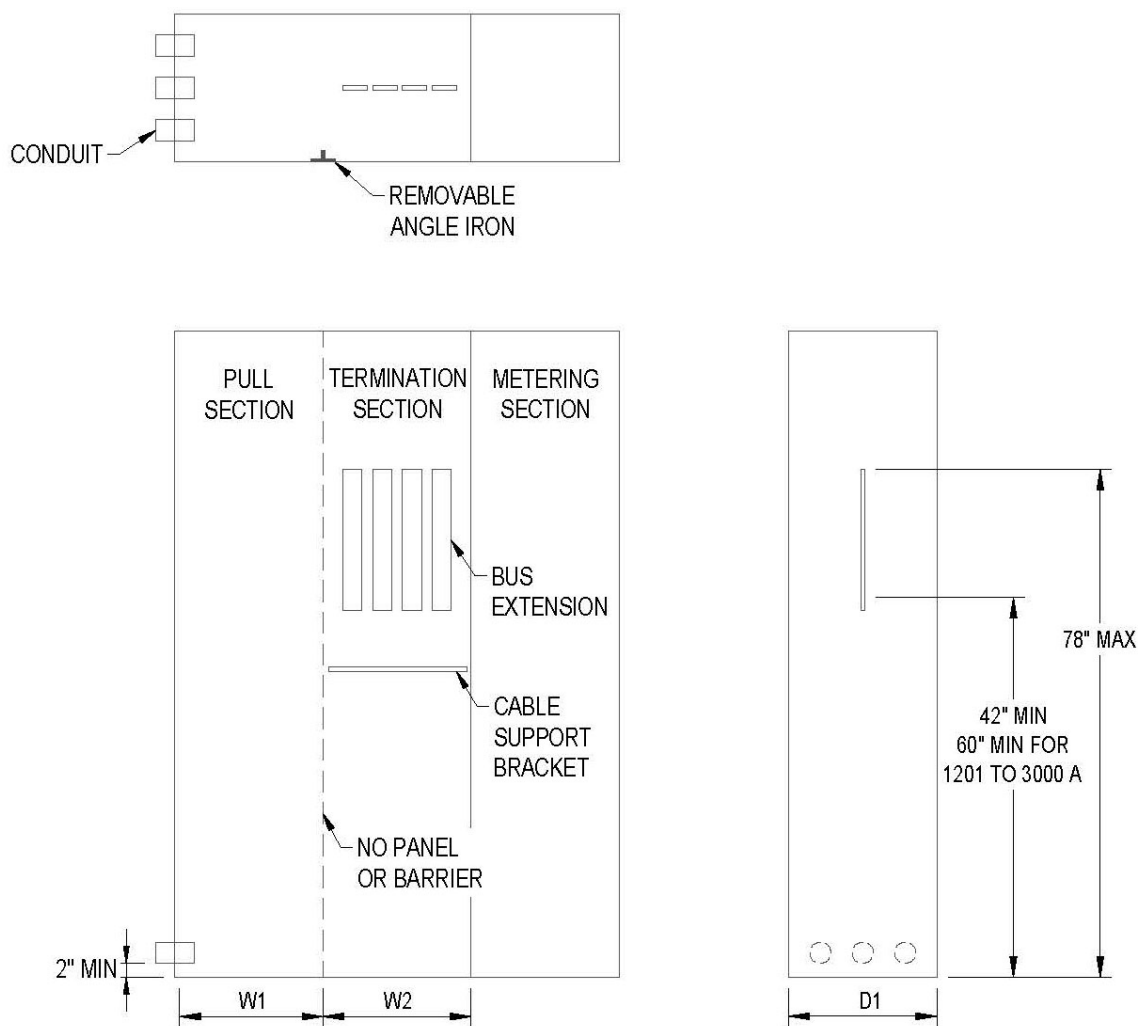

Figure 112. Underground Service Termination in a Pull Section Below Ground Level, Showing Pull Section with Side-Entry Conduits at the Bottom (STD-D-6264)
- The pull section and termination section shown in Figure 111 and Figure 112 are reserved for PGE supply conductors. No conduits or customer wiring is to be installed in—or routed through—this area.